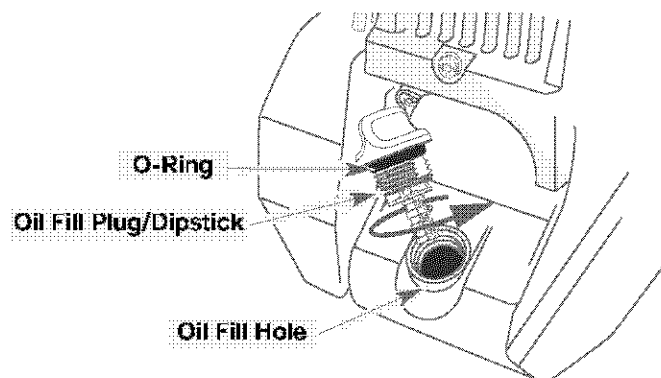

Fig. 42
6. If the level is low, add a small amount of oil to the oil fill hole and recheck (Fig. 42). Repeat until the oil level reaches the top of the dipstick.
NOTE: Make sure the O-ring is in place on the oil fill plug/dipstick when checking and changing the oil (Fig. 42).